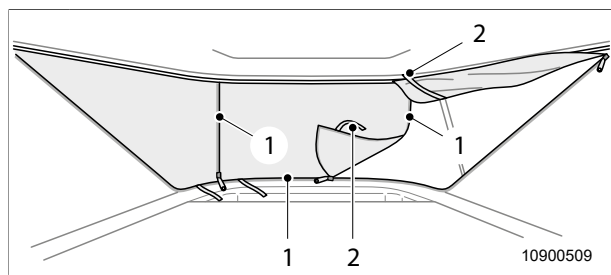

Fig. 40 Convertible function
1. Open the zip fasteners (Fig. 40, item 1).
2. Bundle fabric bellows together and fasten with the hook-and-loop straps (Fig. 40, item 2).